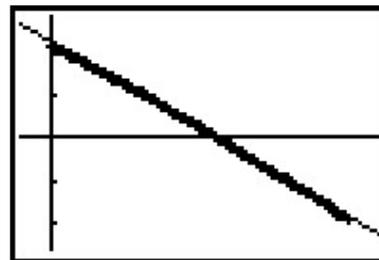

Fig.17
5. Recalling the graph one can see data points and regression line on one plot (Fig.17).